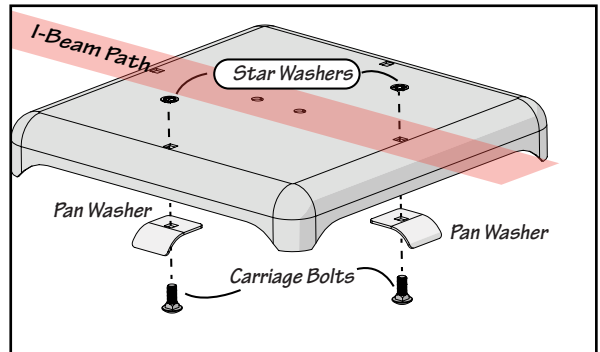

Fig. 3-2
- Stand the ground pan on its side. Slide a carriage bolts through the pan washers passing through the ground pad as shown right in Fig 3-2.
- Attach two star washers over the carriage bolts on top of the ground pan, securing both bolts in place as in Fig 3-2.